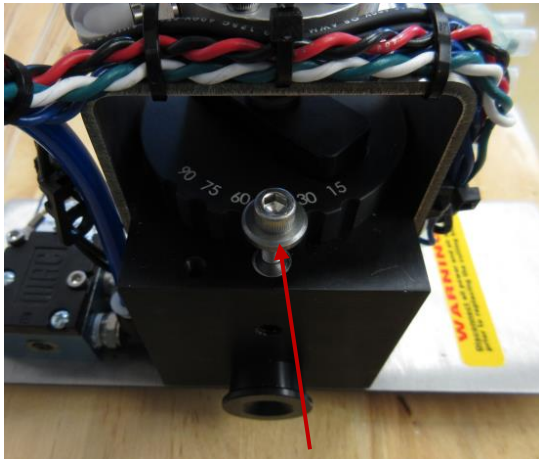

Figure 3.2.1 Loosen screw
- Loosen screw at the rear of the knife block above the bushing hole. *Figure 3.2.1*